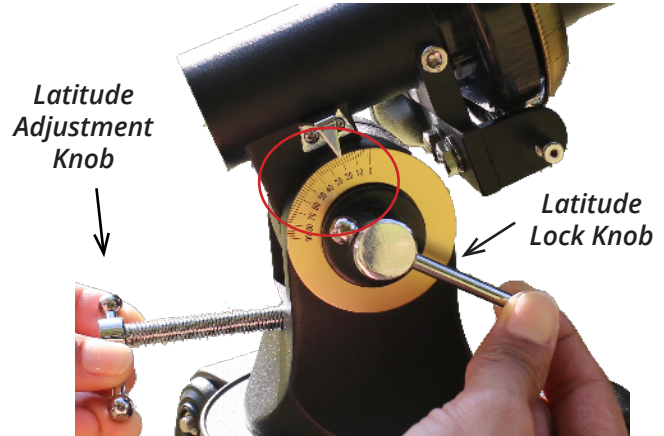

Figure 2.
2. Use the "Latitude Adjustment Knob" (#4) to set the angle to Hawaii's latitude (~20°) (*Figure 2.*)